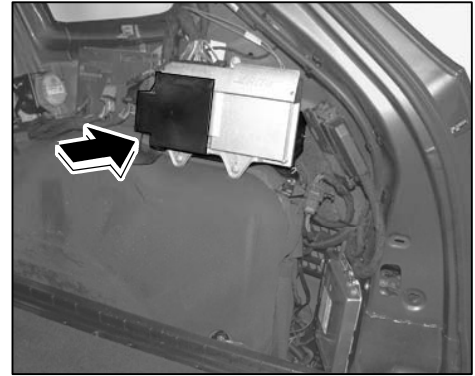

Figure 4
- 1.6 Remove loudspeaker amplifier (⇒ *Workshop Manual '914419 Removing and installing loudspeaker amplifier', ⇒ Figure 4*).